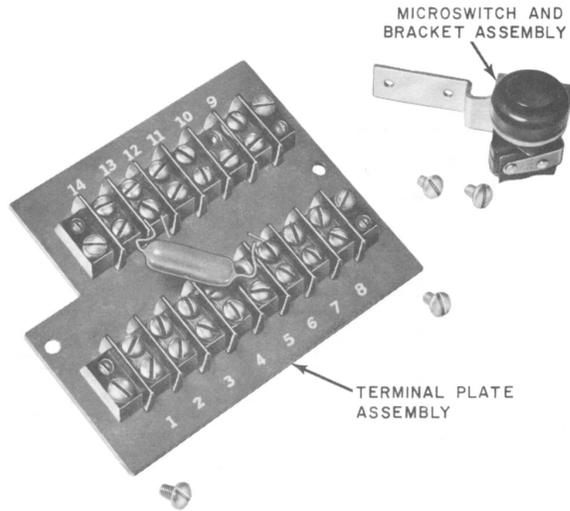

Fig. 12—D-180386 Kit of Parts
**3.15** Install the microswitch (D-180386 Kit of Parts, Fig. 12) in the 526A telephone set as follows: